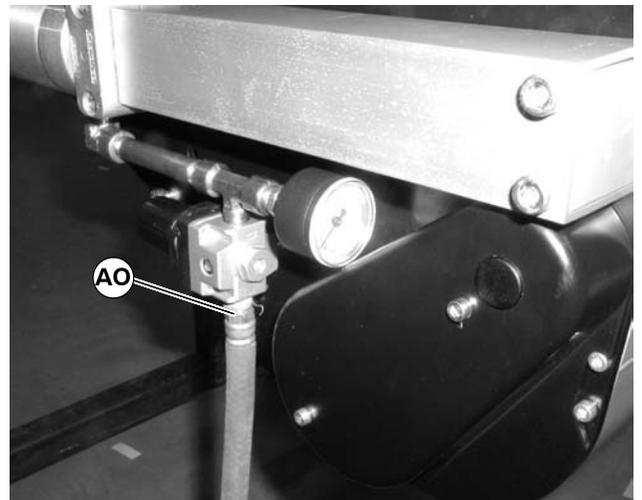

Figure 84
- Remove air supply (AO of Figure 84) from center drive module.